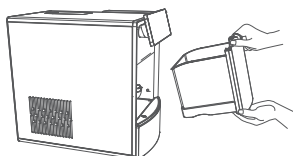

Figure 13
2.2.3 Take out the ice bucket horizontally (see Figure 13).